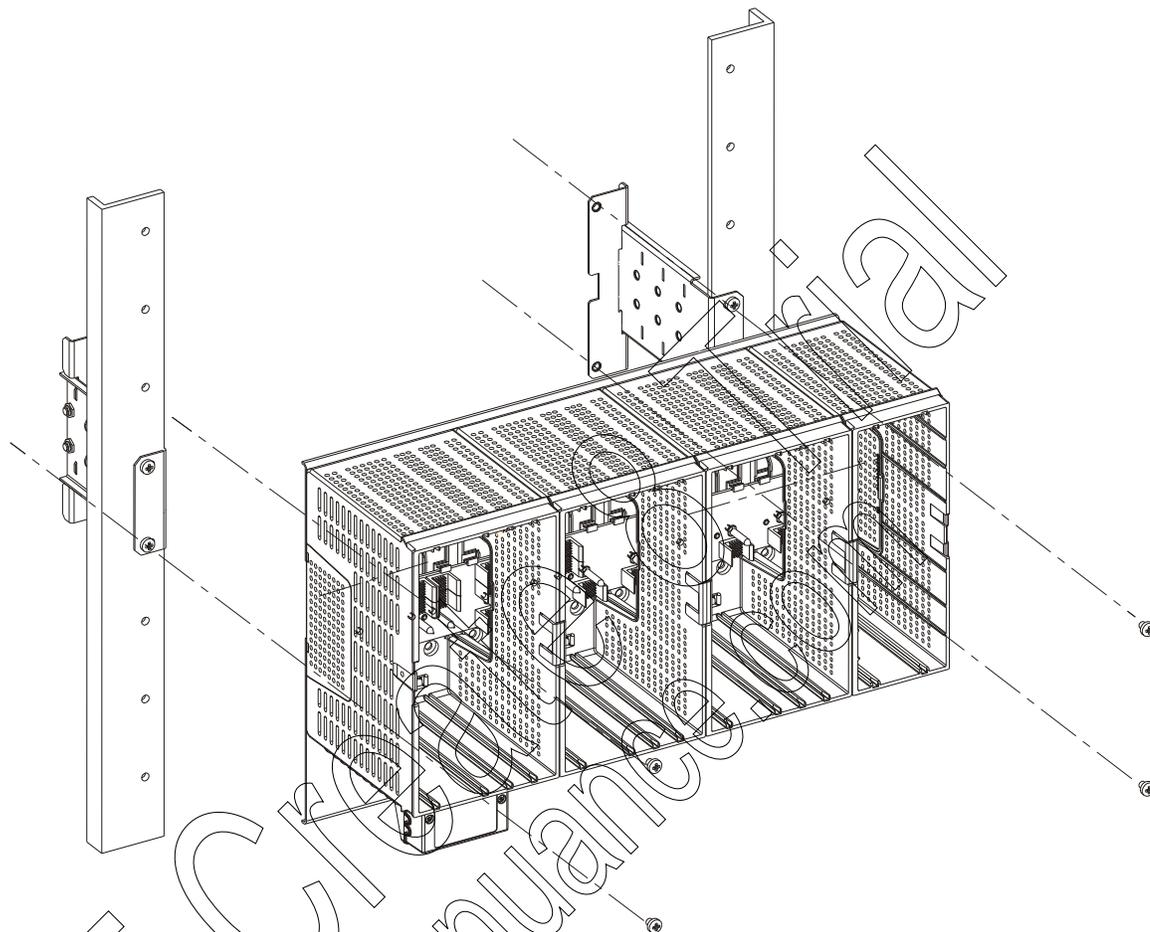

Figure 2-8 Installation of ACE3600 RTU 19" Rack- Exploded View
- 5) Hang the 19" metal chassis on the brackets, so that the two teeth on the back of the metal chassis hook onto the groove of the larger bracket. See Figure 2-8.
- 7) Using two supplied M5 (X6) screws and a 16 cm (6.3") long screwdriver, from inside the slot secure the 19" metal chassis to the small bracket. Repeat on the second side. See Figure 2-8.